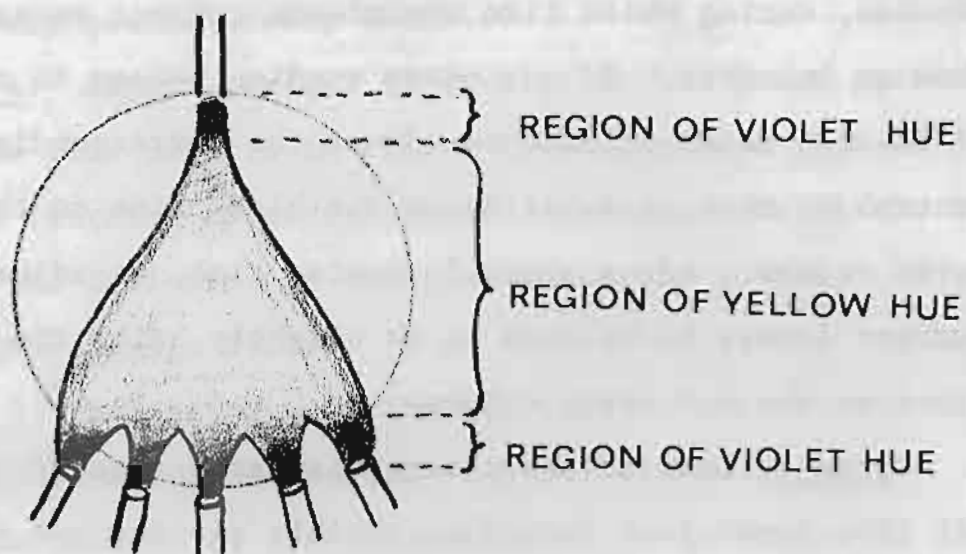

Figure 6
Step 7: Look at the plasma discharge (see Figure 6). All five lower jets should be visibly glowing and the red "PURGE" button should not be lit, indicating that the helium flow has been reduced to its normal operating level. If not all of the five jets are glowing, push the red "PURGE" button to inject additional helium to strike the discharge. The plasma color should be violet at the top and bottom electrodes, fading into a whitish-yellow hue throughout its interior volume. If the violet color extends throughout the discharge volume, then the helium flow can be reduced*.